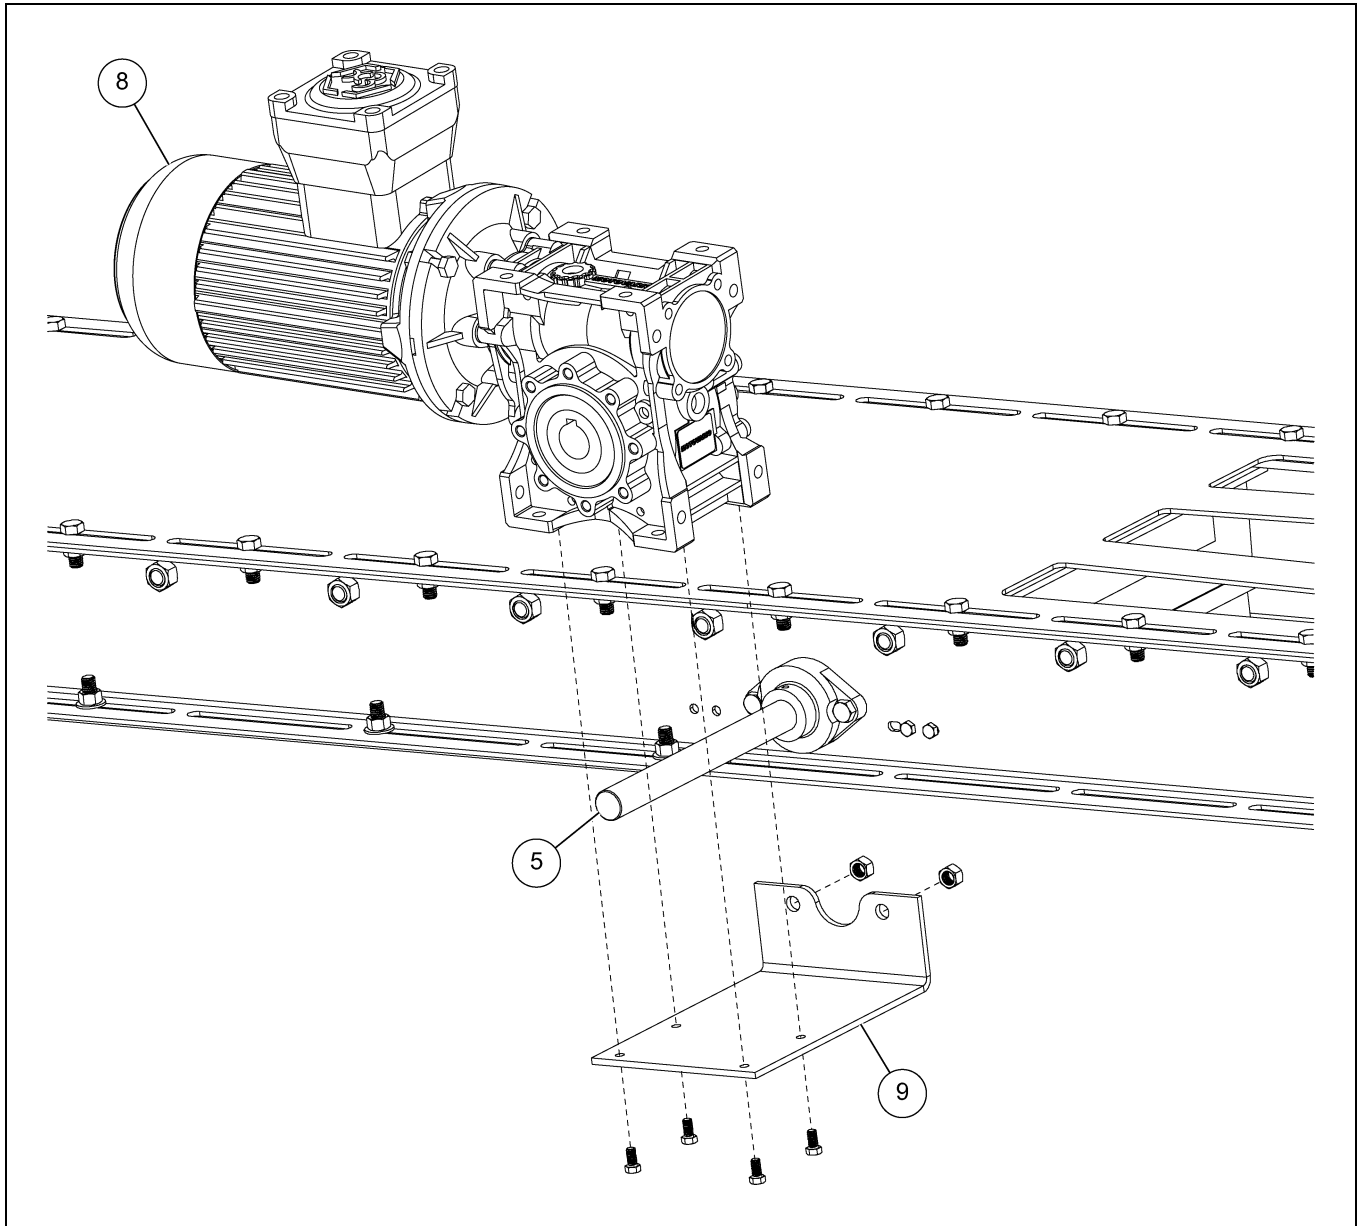

Figure 3D *Installing the Motor Bracket - Cross Cut*
1. Install the motor bracket (9) to the gate. Then attach the motor (8) to the bracket (9) as shown in Figure 3D using the provided hardware.